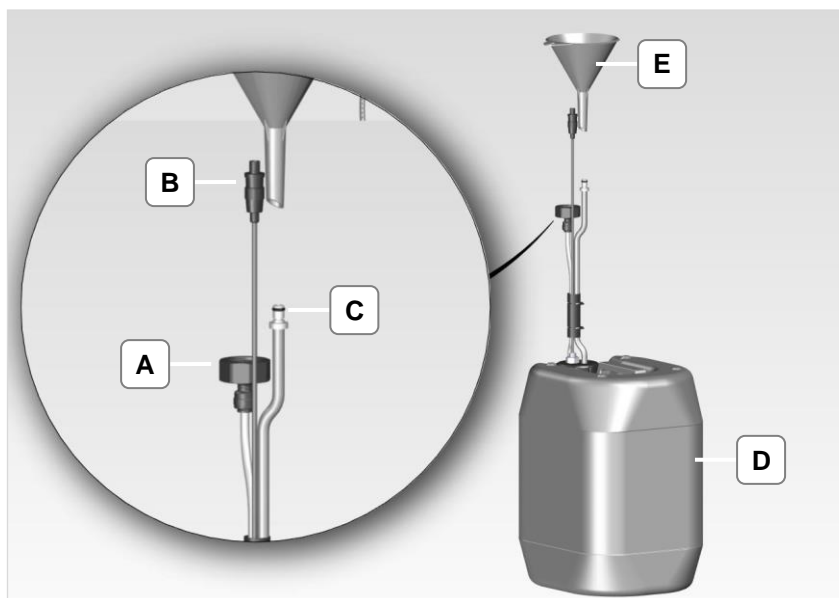
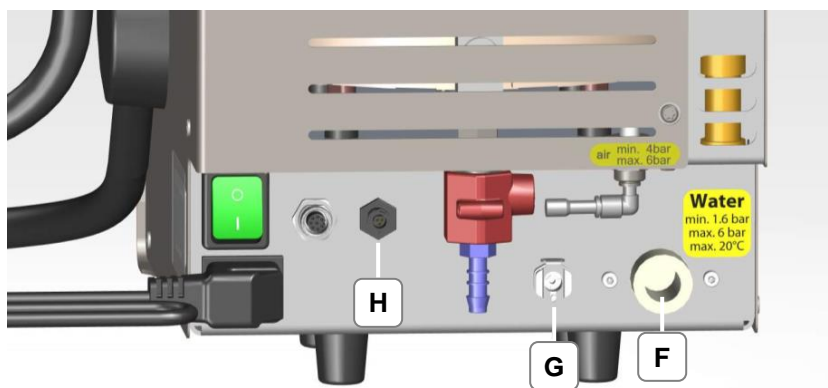
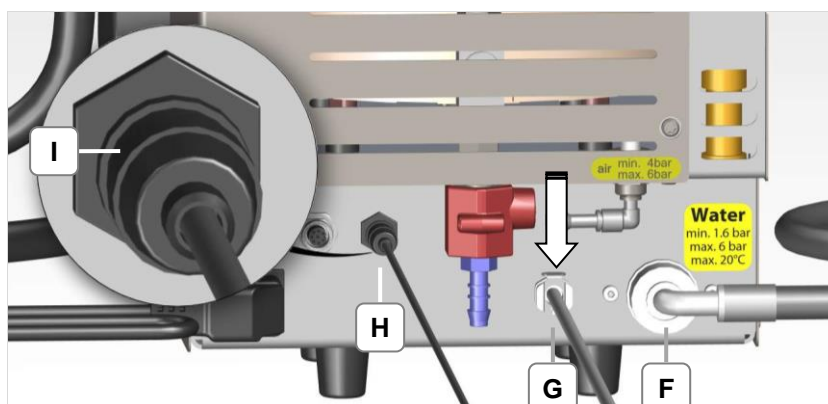
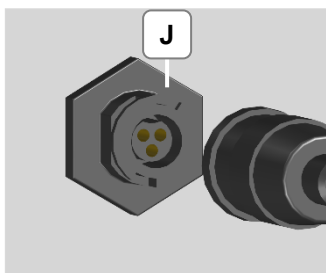

Figure 4.5.1: Canister with accessories
Figure 4.5.2: Connections for the canister (rear side of the device)
Figure 4.5.3: Connections for the canister connected
Figure 4.5.4: Plug alignment (J)
1. Screw on the screwed thread (Figure 4.5.1-A) of the water hose onto the water connection of the device (Figure 4.5.2-F). Inspect whether the seal is positioned correctly in the screwed thread (Figure 4.5.1-A).
2. Connect the cable connector (Figure 4.5.1-B) for the fill level monitoring to the connection (Figure 4.5.2-H) and turn the front cap (Figure 4.5.3-I) until it locks. Observe the plug direction (Fig 4.5.4-J).
3. Insert the ventilation hose (Figure 4.5.1-C) into the connector (Figure 4.5.2-G).
<p>Inspect the secure fixing of the water connection for the canister!</p> <ul style="list-style-type: none"> <li>• Maintain a proper and secure attachment of the connections.</li> <li>• Inspect the connections (Figure 4.4.3-E + F) for leak tightness and function.</li> <li>• Ensure when connecting the ventilation hose that the locking lever (Fig 4.5.3-G) points downwards in the direction of the arrow!</li> </ul>